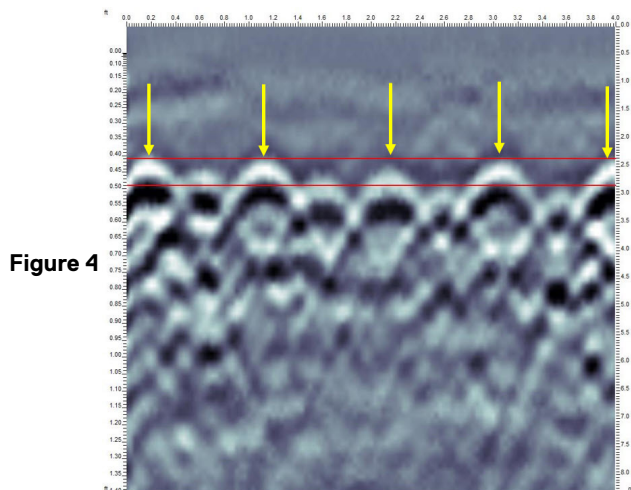

Figure 4
4. Compare depth on the line scans - heating tubes can be placed above or below the rebar, or even sometimes placed between rebar and wire mesh. Looking at a line scan will reveal this depth difference. For example, in **Figure 4**, the depth slices determined the curved heating tubes were above the rebar; the hyperbolas indicated by the yellow arrows are the heating tubes. The other hyperbolas in between them are the rebar.